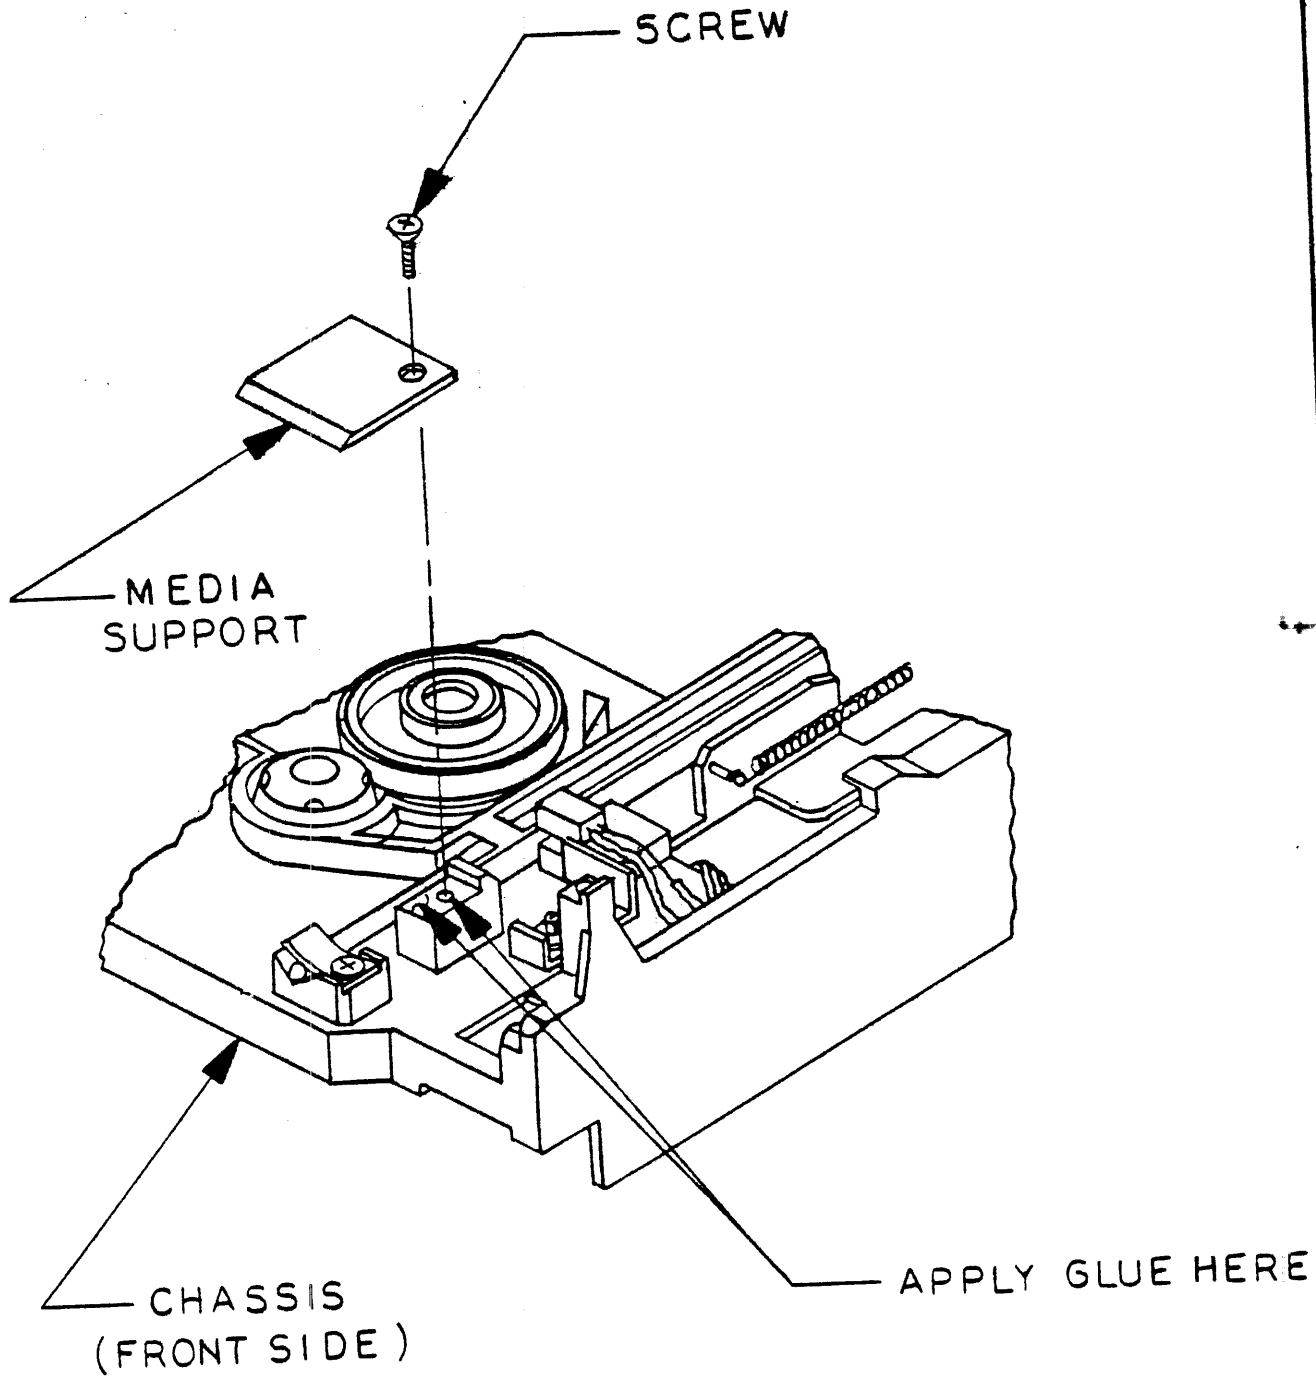

FIGURE 5. THE INSTALLATION OF THE MEDIA SUPPORT
- 7.6.1 Put a drop of T.L.C. (grade 22) in the retaining hole for the media support and on top of the supporting chassis mount. (See Fig. 5.) Place the media support over the hole so that the support projects towards the bottom head. Insert a flathead screw (4-40 X 1/4 in.) into the support and chassis holes, and tighten it using the torque wrench set at 3 in-oz.